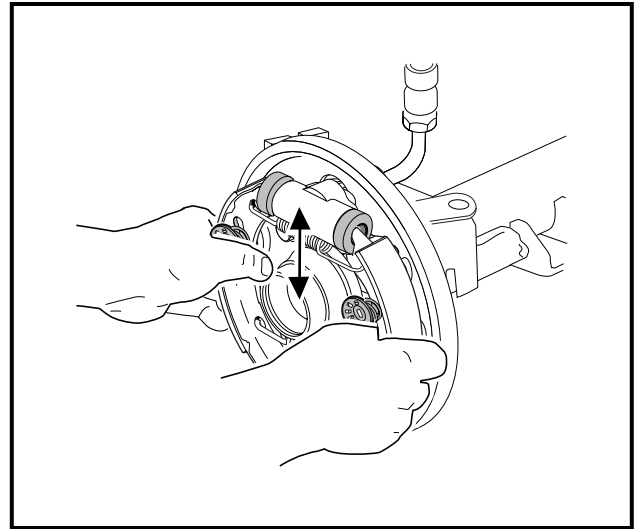

Figure 6-12 Slide Shoes
5. After the shoes are installed, move them together up and down to make sure that they will easily slide approximately 1/4 to 3/8 inch (6.3 to 9.5 mm) without binding (**Figure 6-12, Page 6-13**).